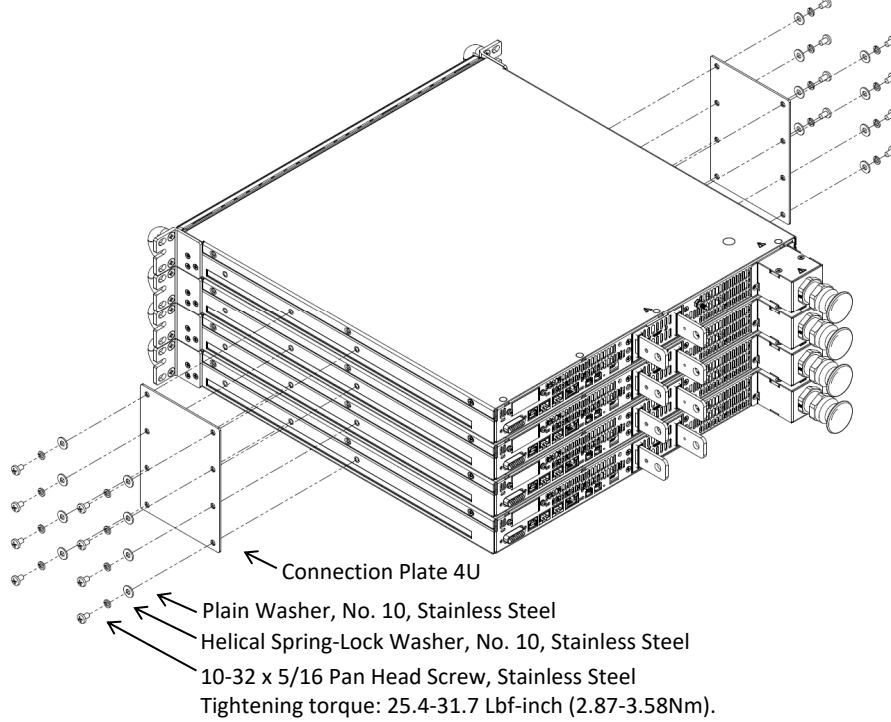

Figure 4: Four 60V-100V Units Connection Plates 4U Assembly
1. Attach connection plates, one on each side of the power supplies, using 16 pan head screws, 16 helical spring-lock washers and 16 plain washers as illustrated in Figure 4.